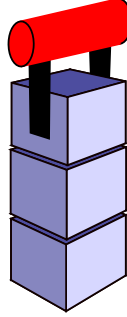

Figure 3: Initial grasp pose before running your code.
- (c) (10 points) Augment `robot_interface`’s world state representation with the Cartesian pose of each block. Initialize the block poses by querying the robot’s initial configuration at runtime. The initial hand pose should be positioned as shown in Figure 3.